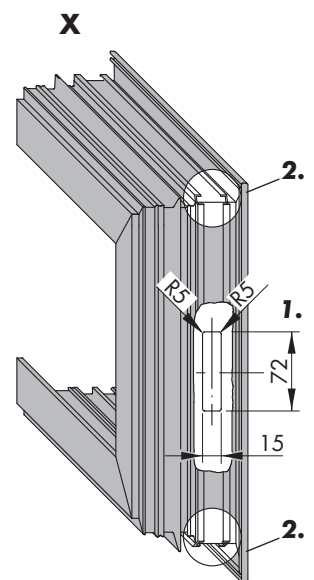

Fig. 2
2. Open guiding groove for operating rod (fig. 2).
3. Machine operating rods S1 and S2 according to instructions on pages 5-6 (DK) or 10-11 (TBT).